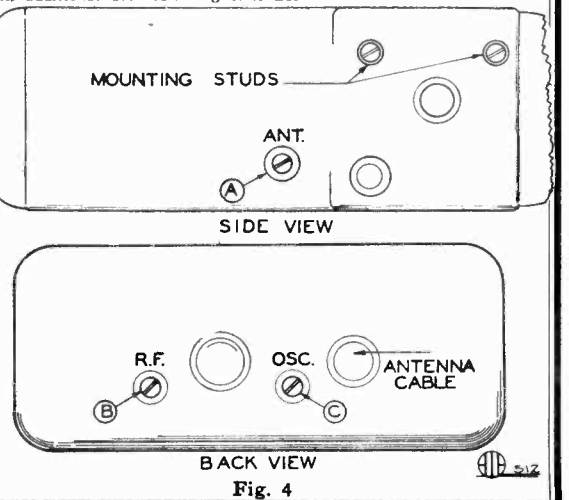

Fig. 4
Tune in a weak signal at approximately 1400 KC with the volume control about three-fourths on. Turn the adjusting screw of the antenna trimmer up or down until maximum output is obtained. See Fig. 4, adjustment "A" on side of remote tuner unit.
2. Adjust oscillator trimmer (adjustment "C", on back of Remote Tuner Unit) to resonance. (See Fig. 4, back view).